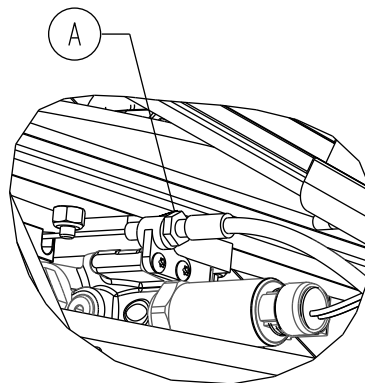

Figure 17 – Loosen the manual release cable lock nut
5. Using a 10 mm combination wrench, loosen the manual release cable lock nut (A) (Figure 17).